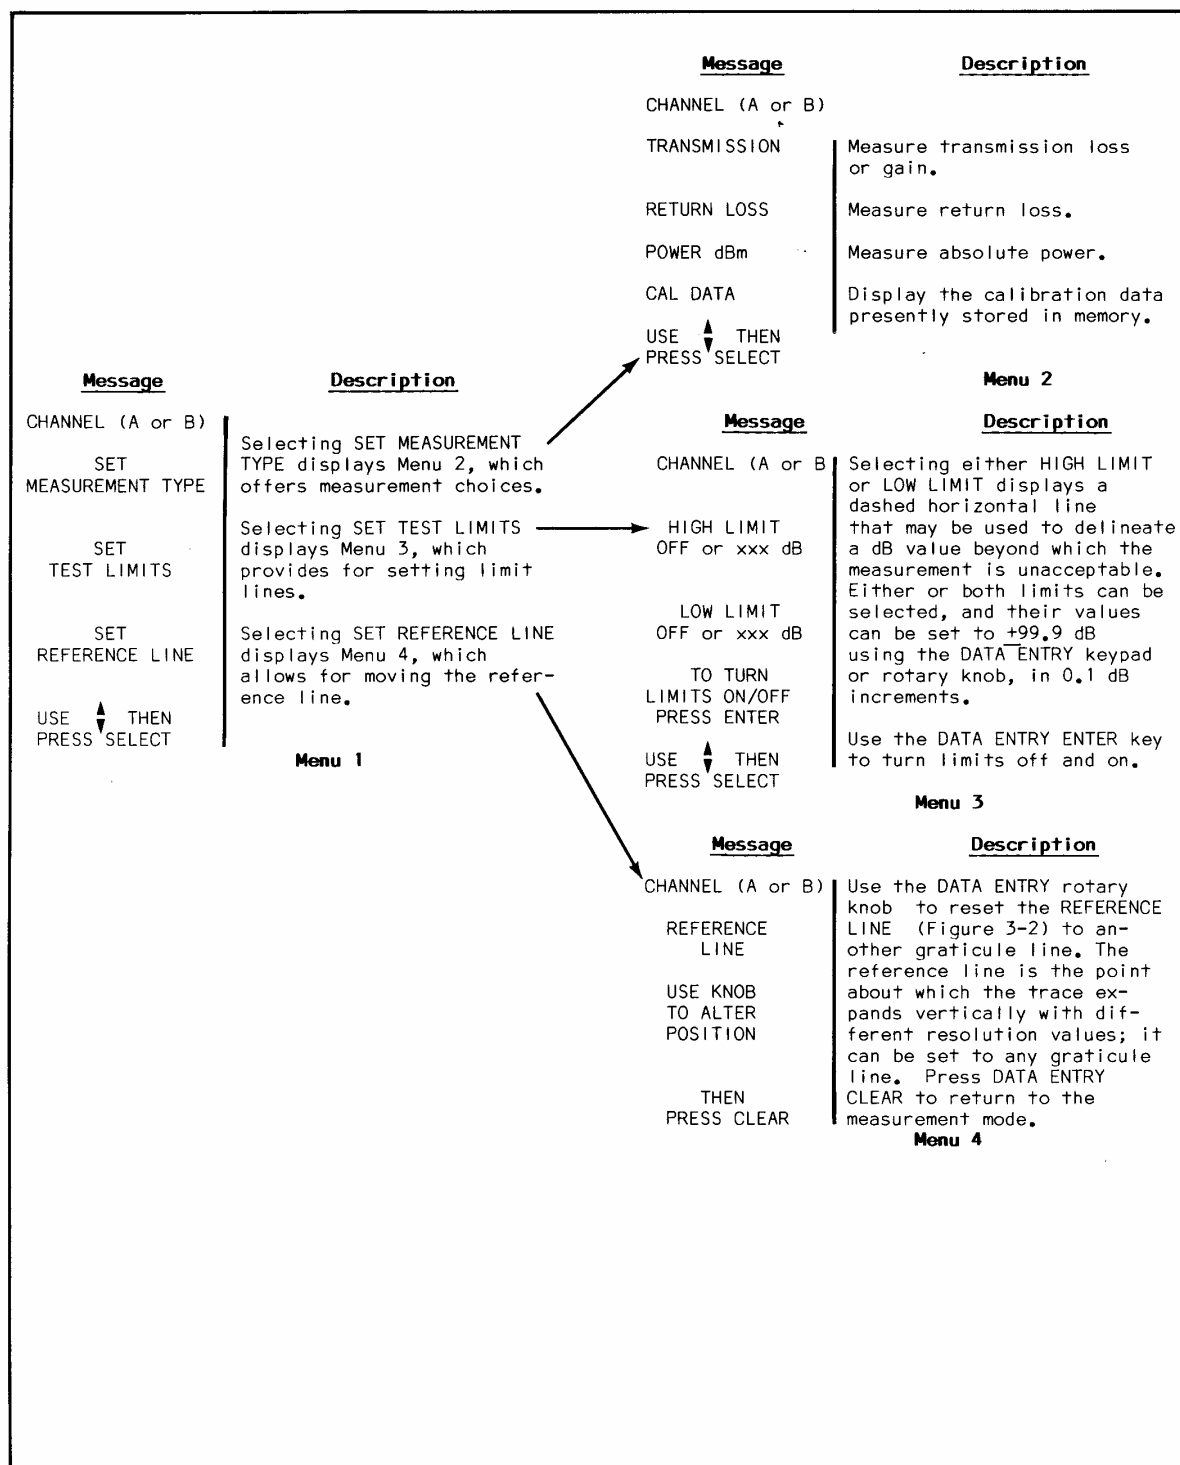

Figure 3-7. Channel A/B MENU Menus
- b. **MENU Key:** Displays a menu (Figure 3-7) that lets the operator select the measurement type, set test limits, or move the reference line.